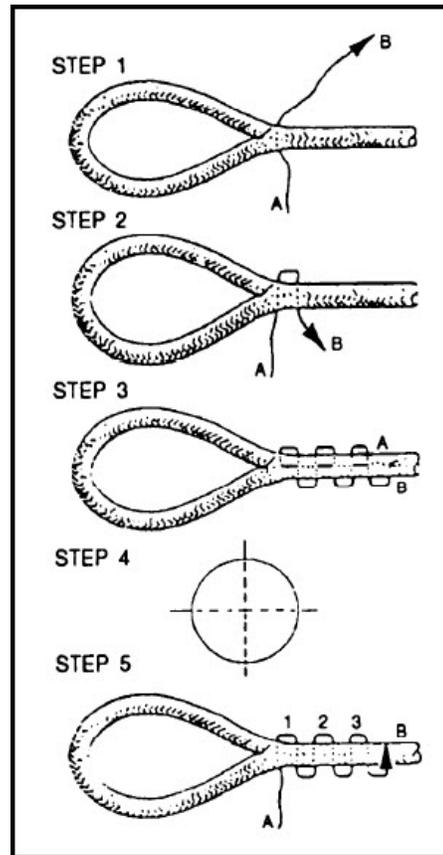

Figure 2-15 Making the lock stitch
9. Prior to whipping (fig. 2-15), it is to your advantage to stitch-lock the splice to prevent no-load opening. You will need approximately one fid length of nylon or polyester whipping twine. The twine should be about the same size as the strands of line you are stitching. Strands cut from the line may be used. To begin the lock stitch, pass the twine (A) through the line as shown in step 1, figure 2-15. Reinsert the twine as in step 2. (Ensure that all the stitching is just snug. **DO NOT TIGHTEN.**) Continue until you have four complete stitches. After you have four stitches, turn the line 90° and pass the remaining end (B) through the line perpendicular to the original stitches to make four more stitches. The line should now look like step 4. Now take ends A and B, tie a square knot, and bury it in between the cover and the core. You may now whip the line or leave it as it is.